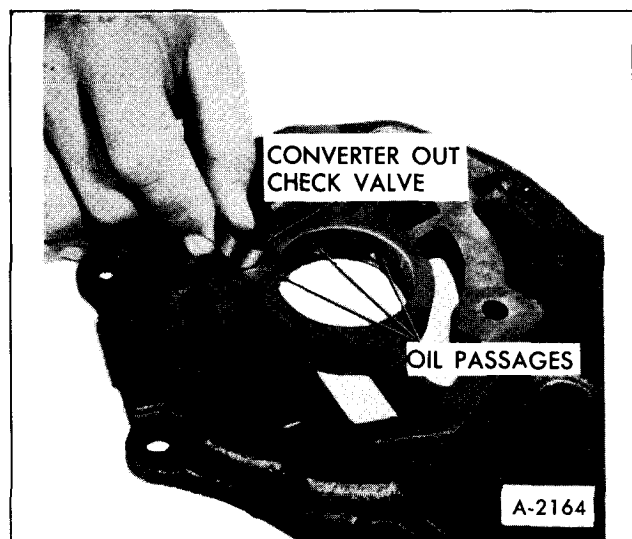

Figure 47-Converter Out Check Valve
d. Remove converter out check valve, Figure 47.